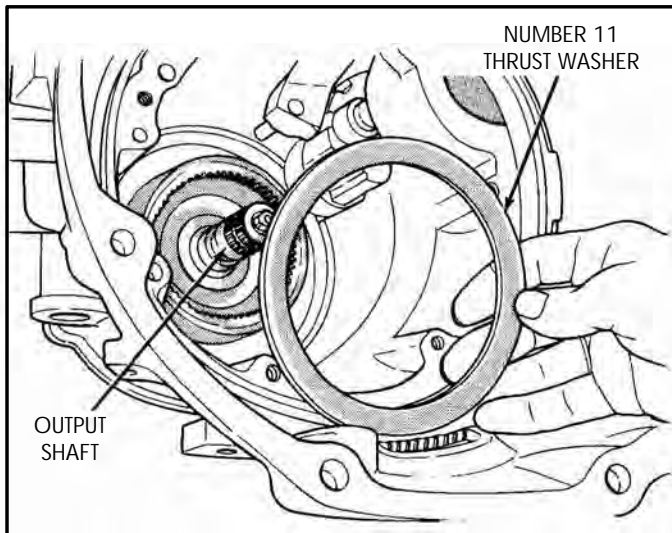

Figure 220
1. Install the number 11 thrust washer, as shown in Figure 220.